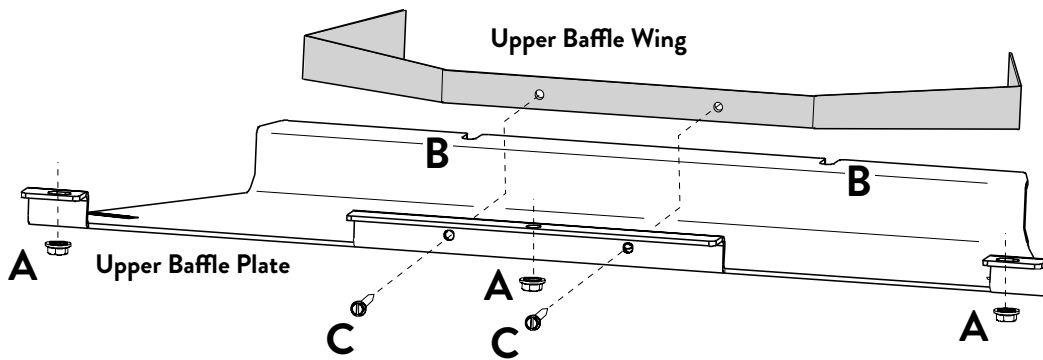

Figure 7.8. Baffle Conversion - Propane Only.
**7. LP CONVERSION ONLY: Remove the Upper Baffle Wing from the firebox.** See fig. 7.8 below and also fig. 10. 3.
- Remove three 10 mm hex nuts (A) from the front of the Upper Baffle plate.
- Loosen, but do not remove the two 10 mm hex nuts (B) from the rear of the Upper Baffle plate. These are not visible, but you will be able to locate them with your fingers. The baffle plate will drop down enough to enable you to remove the Inner Wing panel from the firebox.
- Remove the two sheet metal screws (C) that secure the Inner Baffle Wing to the center of the Upper Baffle.